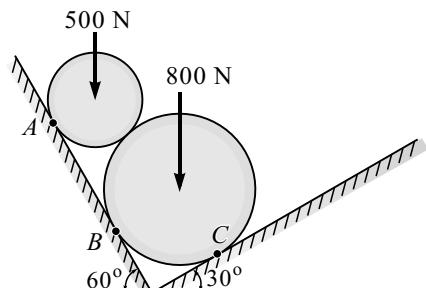

Fig. 3.E12
13. Two cylinders *P* and *Q* are in a channel as shown in Fig. 3.E13. The cylinder *P* has a diameter of 100 mm and weight 200 N and *Q* has 180 mm and 500 N. Determine the reaction at all the contact surfaces.